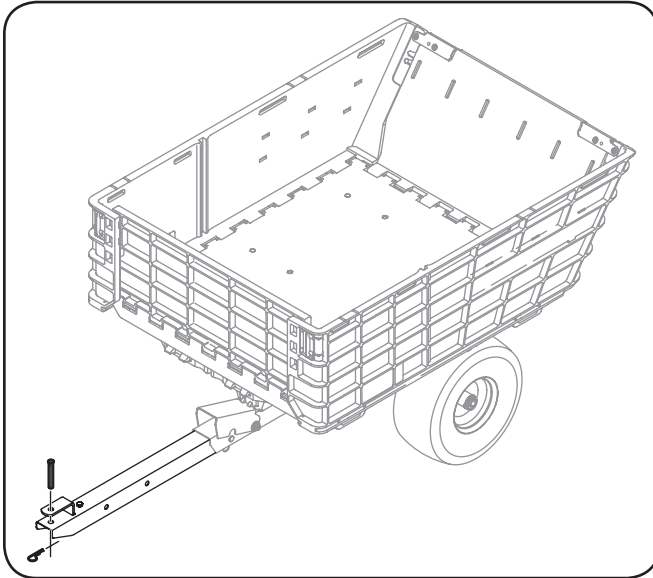

Figure 5-1
1. Remove the clevis pin and cotter pin from the tongue hitch. See Figure 5-1.
2. Carefully slide the tongue hitch onto the hitch bracket on the back of your tractor and secure in place with the hardware removed in Step 1. See Figure 5-1.